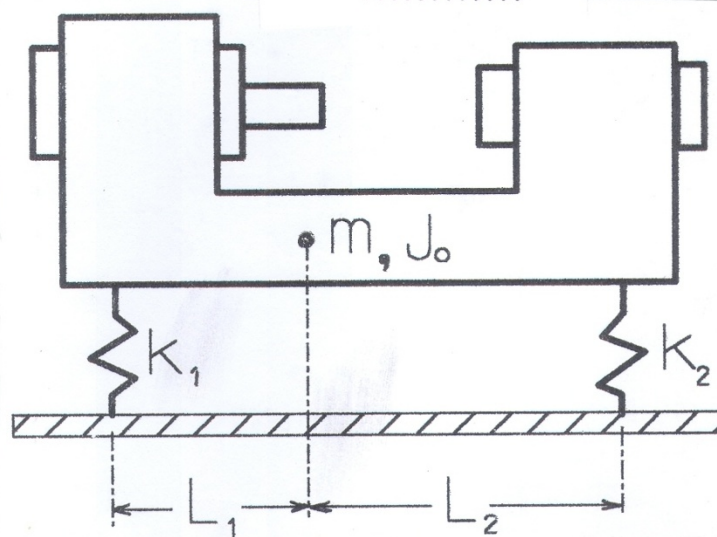

Figure 9
- 9- A machine tool, having a mass of $m = 1000$ kg and a mass moment of inertia of $J_0 = 300$ kg.m², is supported on elastic supports as shown in Figure 9. If the stiffnesses of the supports are given by $k_1 = 3000$ N/mm and $k_2 = 2000$ N/mm, and the supports are located at $L_1 = 0.5$ m and $L_2 = 0.8$ m, find the natural frequencies and mode shapes of the machine tool.